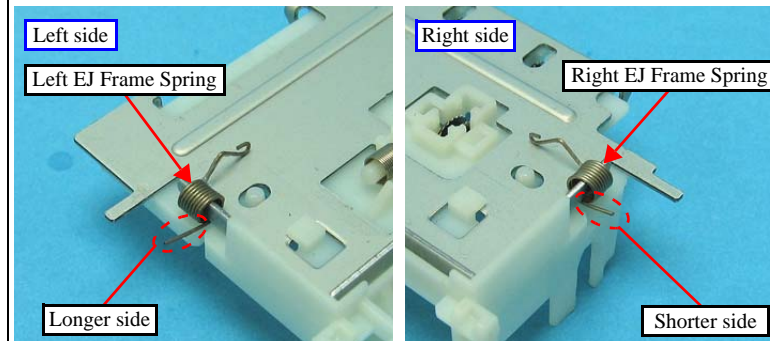

Figure 4-97. Installing the Paper Eject Frame Assy (2)
- When installing the EJ Frame Assy, make sure that the Left/Right EJ Frame Springs are attached as shown in Fig. 4-97. Carefully handle the EJ Frame Assy as the springs come off easily.